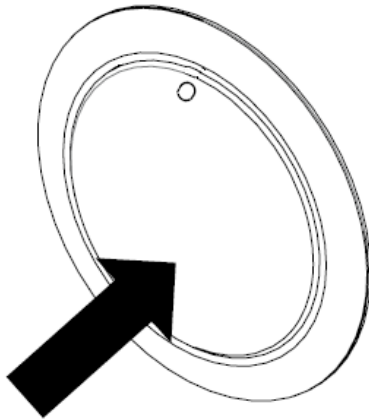

Fig. 13: Pop out off
- Press inward to pop out the button and then adjust (Fig. 13).